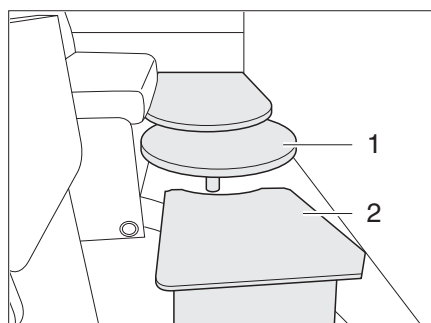

Fig. 39 Bed extension (extra bed)
- Place the bed extension (Fig. 39,2) for the extra bed onto the table-top extension (Fig. 39,1).